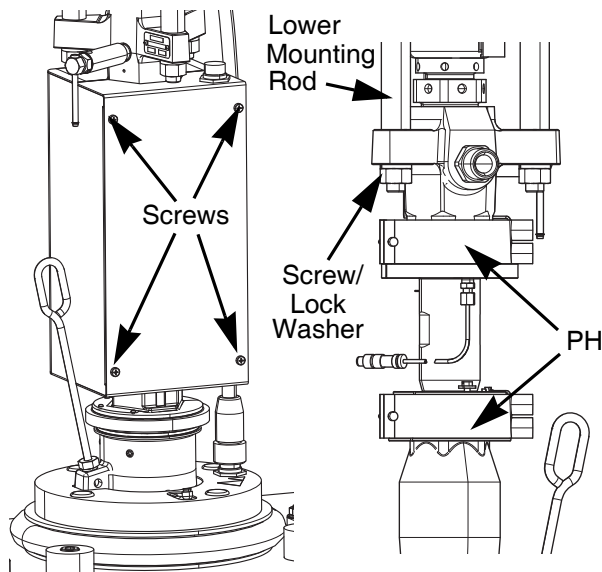

FIG. 30
5. Remove the screws and lock washers on the lower mounting rods. See FIG. 30.
7. Open the main air ball valve (BA), then jog the direction valve UP to separate the lower and the air motor. Lift the air motor to the highest position, and move the lower with the platen down from the ram base.
8. Loosen the set screw (Z).